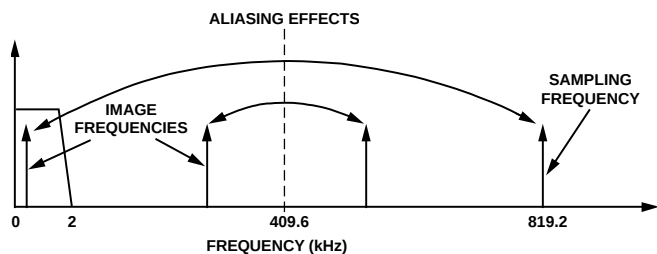

Figure 20. ADC and Signal Processing in current channel Outline Dimensions
Figure 18 also shows an analog low-pass filter (RC) on the input to the modulator. This filter is present to prevent aliasing. Aliasing is an artifact of all sampled systems. Aliasing means that frequency components in the input signal to the ADC, which are higher than half the sampling rate of the ADC, appear in the sampled signal at a frequency below half the sampling rate. Figure 20 illustrates the effect. Frequency components (arrows shown in black) above half the sampling frequency (also known as the Nyquist frequency, i.e., 409.6 kHz) are imaged or folded back down below 409.6 kHz. This happens with all ADCs regardless of the architecture. In the example shown, only frequencies near the sampling frequency, i.e., 819.2 kHz, move into the band of interest for metering, i.e., 40 Hz to 2 kHz. This allows the use of a very simple LPF (low-pass filter) to attenuate high frequency (near 819.2 kHz) noise, and prevents distortion in the band of interest. For conventional current sensors, a simple RC filter (single-pole LPF) with a
corner frequency of 10 kHz produces an attenuation of approximately 40 dB at 819.2 kHz — see Figure 20. The 20 dB per decade attenuation is usually sufficient to eliminate the effects of aliasing for conventional current sensors. However, for a di/dt sensor such as a Rogowski coil, the sensor has a 20 dB per decade gain. This neutralizes the –20 dB per decade attenuation produced by one simple LPF. Therefore, when using a di/dt sensor, care should be taken to offset the 20 dB per decade gain. One simple approach is to cascade two RC filters to produce the –40 dB per decade attenuation needed.